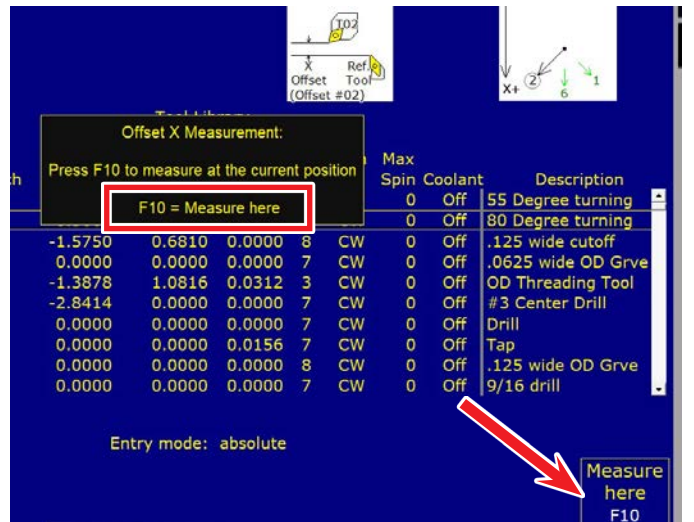

FIGURE 26
E. Now we are going to set the tool offset for tool #5 in the X-axis. With the tool in the touch position click on “Measure Offset X F5”, the “Measure Here F10” (see Figure 26).